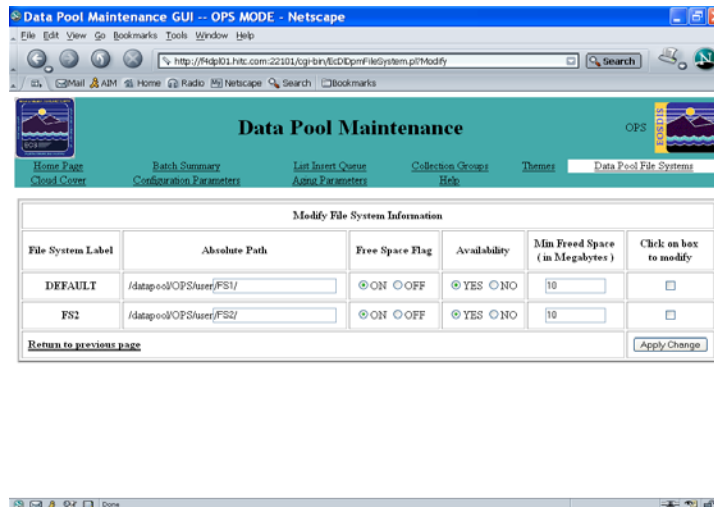

Figure 14.10-6. Modify File System Information Page
The **DPM GUI** may be used to modify a Data Pool file system. This is useful if the Absolute Path, Free Space Flag, Availability (for Insert), and/or Min. Freed Space for a particular Data Pool file system need to be corrected or updated. Selecting the **Modify File System** link takes the full-capability operator to the **Modify File System Information** page shown in Figure 14.10-6. The operator can change the Absolute Path, Free Space Flag, Availability flag, or the Min Freed Space on this page. There are check boxes associated with each file system. The operator can change multiple file systems at one time by checking the desired file systems' checkboxes and clicking on the **Apply Change** button.
- The **Modify File System Information** page is displayed (see Figure 14.10-6).